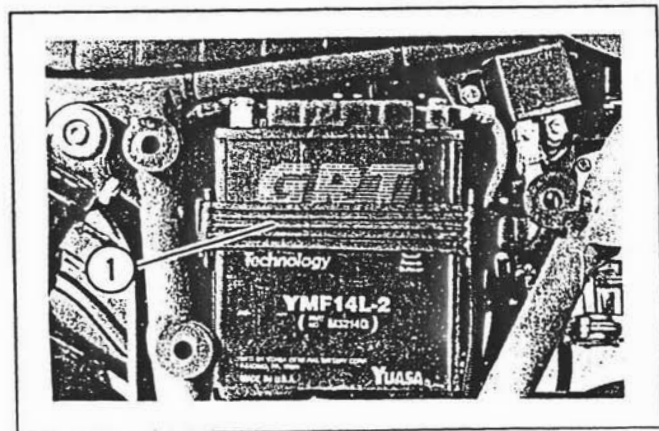

Figure 5-8. Battery Retaining Strap
2. See Figure 5-8. Unlatch battery retaining strap (1).
2. Using a 10 mm open end wrench or crosstip screwdriver, connect positive (+) cable to positive battery terminal (3) and coat terminal with petroleum jelly.
3. In a similar manner, connect negative (-) cable to negative terminal (2).
4. Slide battery (1) all the way onto tray in vehicle frame.
5. See Figure 5-8. Latch elastic retaining strap (1) to catch on frame to secure battery.